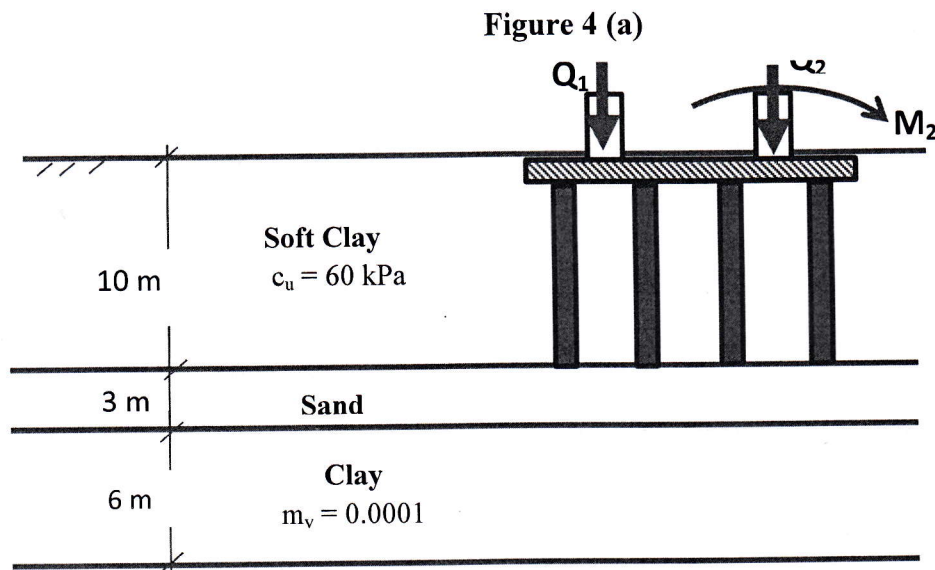

Figure 4(b)
5. Eight piles (in a group, shown in Figure 4) are arranged in 1.5 m centre to centre spacing. The pile group was consisting of 10 m long end bearing piles.
- (b) Determine the consolidation settlement of the pile group in the soil profile, shown in Figure 4(b). Given that $Q_1 + Q_2 = 4000$ kN and $M_2 = 0$. The total of $Q_1 + Q_2$ includes the weight of the pile cap. Use 2:1 pressure distribution and divide the layer into two equal layers.